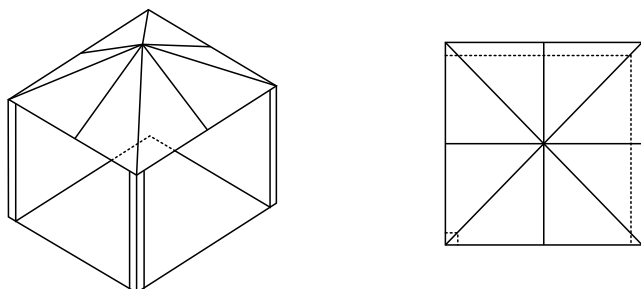

Figure D.2 - Outdoor area - Example 2
2. An appliance is considered to be outdoors if installed with shelter no more inclusive than with in a partial enclosure that includes an overhead cover and no more than two sidewalls. The sidewalls may be parallel, as in a breezeway, or at right angles to each other; all openings must be permanently open; sliding doors, garage doors, windows, or screened openings are not considered as a permanent openings. (See Figure D.2 & D.3)